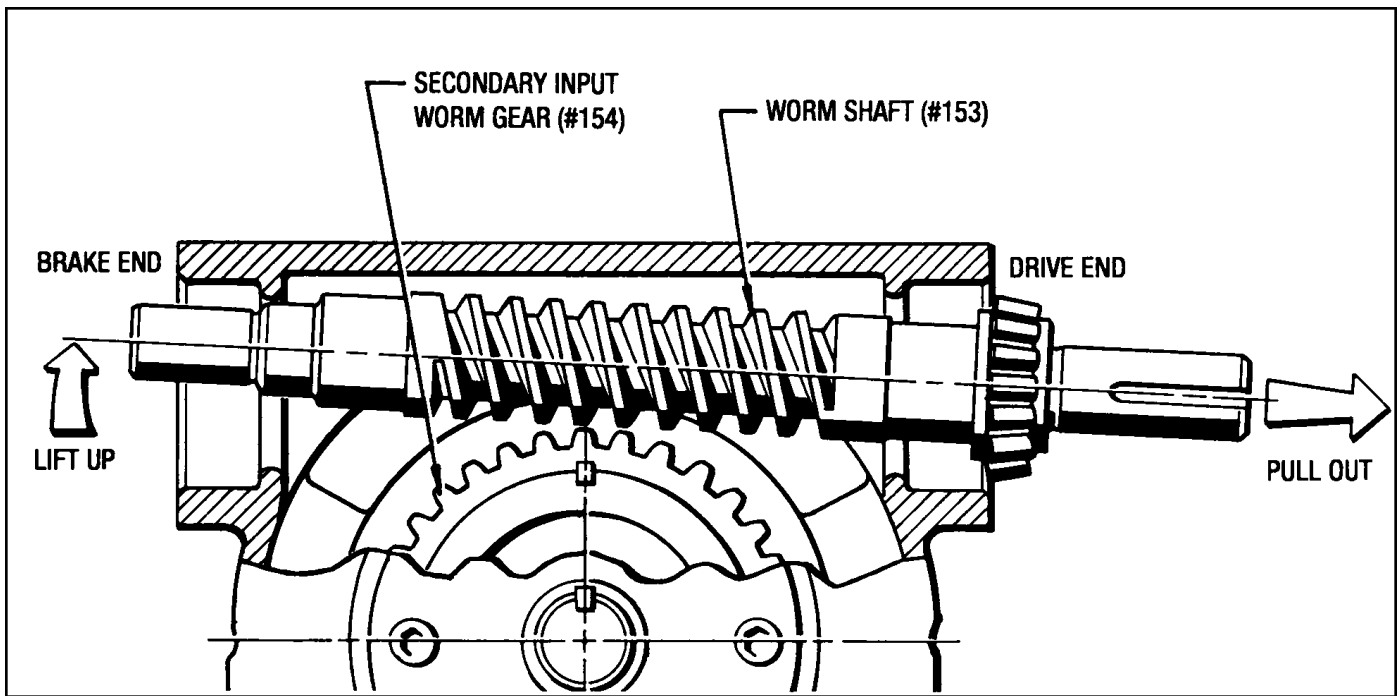

Figure 7.9 - Removing Male Worm Shaft From Housing
11. From the end of the Worm Shaft that still has a Bearing Cone (#168) on it, pull the Worm Shaft (#153) out of the Housing (#9) lifting and tilting it over the Worm Gear. (See Figure 7.9)